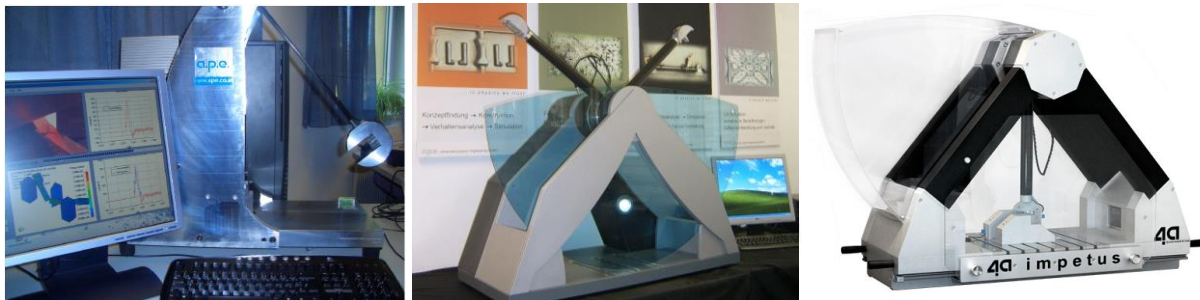

Fig. 1: Prototype of 4a impetus (2004 [2]), first commercial version (2006 [3]) and the current version (2015 [4])
- tests can be performed very quickly and accurate using 4a impetus (see fig. 1).